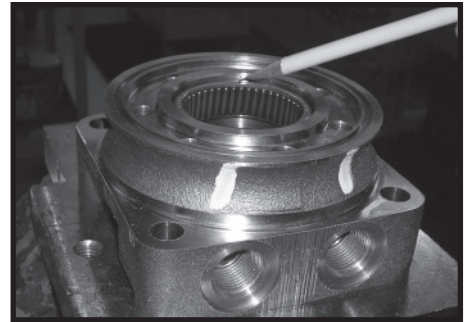
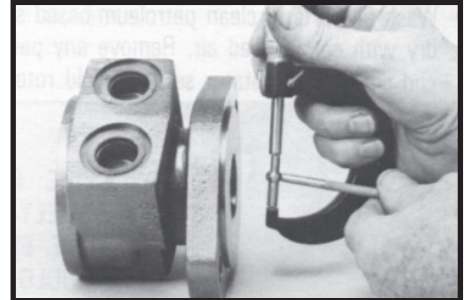

Figure 27
Figure 28
21. If the housing (18) assembly has passed inspection to this point, inspect the housing bearings/bushings (19) and (13) and if they are captured in the housing cavity the two thrust washers (14) and thrust bearing (15). The bearing rollers must be firmly retained in the bearing cages, but must rotate and orbit freely. All rollers and thrust washers must be free of brinelling and corrosion. SEE FIGURE 27. The TB Series bushing (19) or (13) to coupling shaft diameter clearance must not exceed .010 inch (.025 mm). A bearing, bushing, or thrust washer that does not pass inspection must be replaced. SEE FIGURE 28. If the housing has passed this inspection the disassembly of the Torqmotor™ is completed.